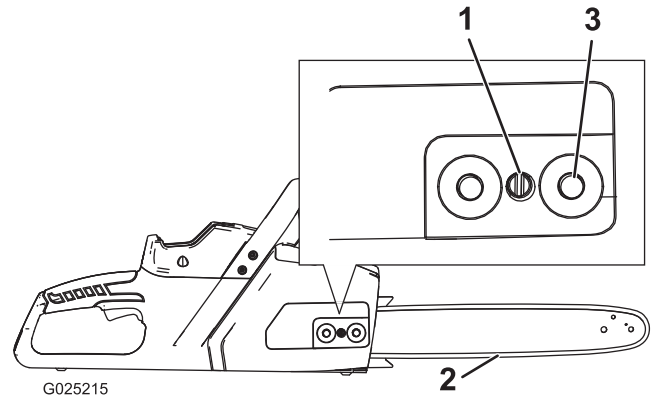

Figure 29
Note: The chain should move smoothly around the blade bar when pulled by hand, and should remain in contact with the underside of the bar (Figure 29).
2. Loosen the 2 nuts on the cover without removing the cover (Figure 29).
5. Tighten the 2 nuts (Figure 29).